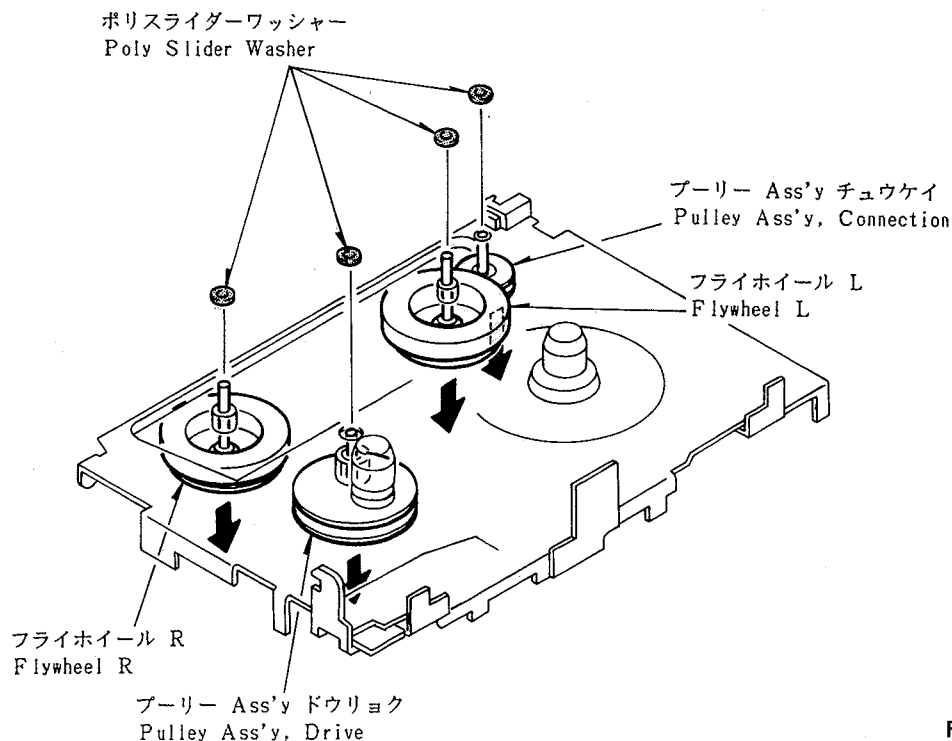

Fig. 5
(Fig. 5 参照)
- 1) Remove each poly-slider washer to pull out the respective pulley or flywheel in the direction of the arrow. (See Fig. 5)